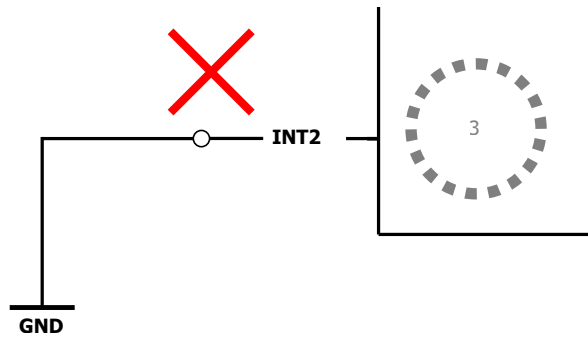

Figure 50: Connection that is not allowed in I2C and I3C before the pin 3 is configured to the output characteristics
- When the output characteristics of pin 3 is disabled (or not yet enabled), please do not connect pin 3 to ground, as shown in figure 50.